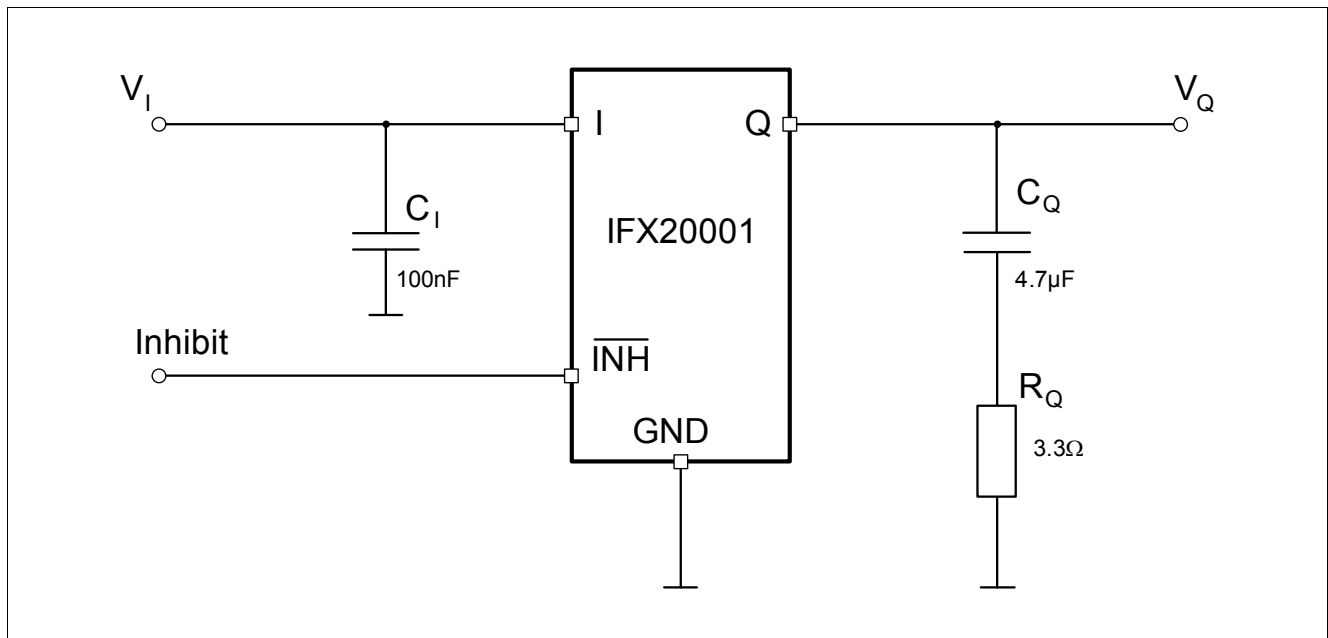

Figure 3 Application Diagram
**Figure 3** shows a typical application circuit. In order to maintain the stability of the control loop the IFX20001 output requires an output capacitor  $C_Q$  of at least 3.3  $\mu\text{F}$  with a minimum required ESR of 2.5  $\Omega$  and a maximum allowed ESR of 6  $\Omega$  for the IFX20001MBV33 and 8  $\Omega$  for the IFX20001MBV50. It is recommended to use for  $C_Q$  a suitable tantalum capacitor or a multilayer ceramic capacitor with a sufficiently dimensioned series resistor in order to cover the required ESR range over the full operating temperature range from -40  $^{\circ}\text{C}$  to 125  $^{\circ}\text{C}$ .1)
| 1.1      | 2013-01-08 | Corrected ESR requirements for output capacitor (chapt. 3.2, table1 / chapt. 5.1, table2 / chapt. 6, "Application Information").remarks/footnotes with respect to ESR added (chapt.6).Updated application diagram (fig.3).Updated (improved) limits of parameters current consumption, line regulation and load regulation in electrical characteristics (chapt. 5.1, table 2). Test condition for current consumption adapted.Updated minimum limit for absolute maximum ratings of $V_Q$ (chapt. 4.1).Further editorial changes. |
| 1.02     | 2010-05-20 | Editorial change (fig.3)   |